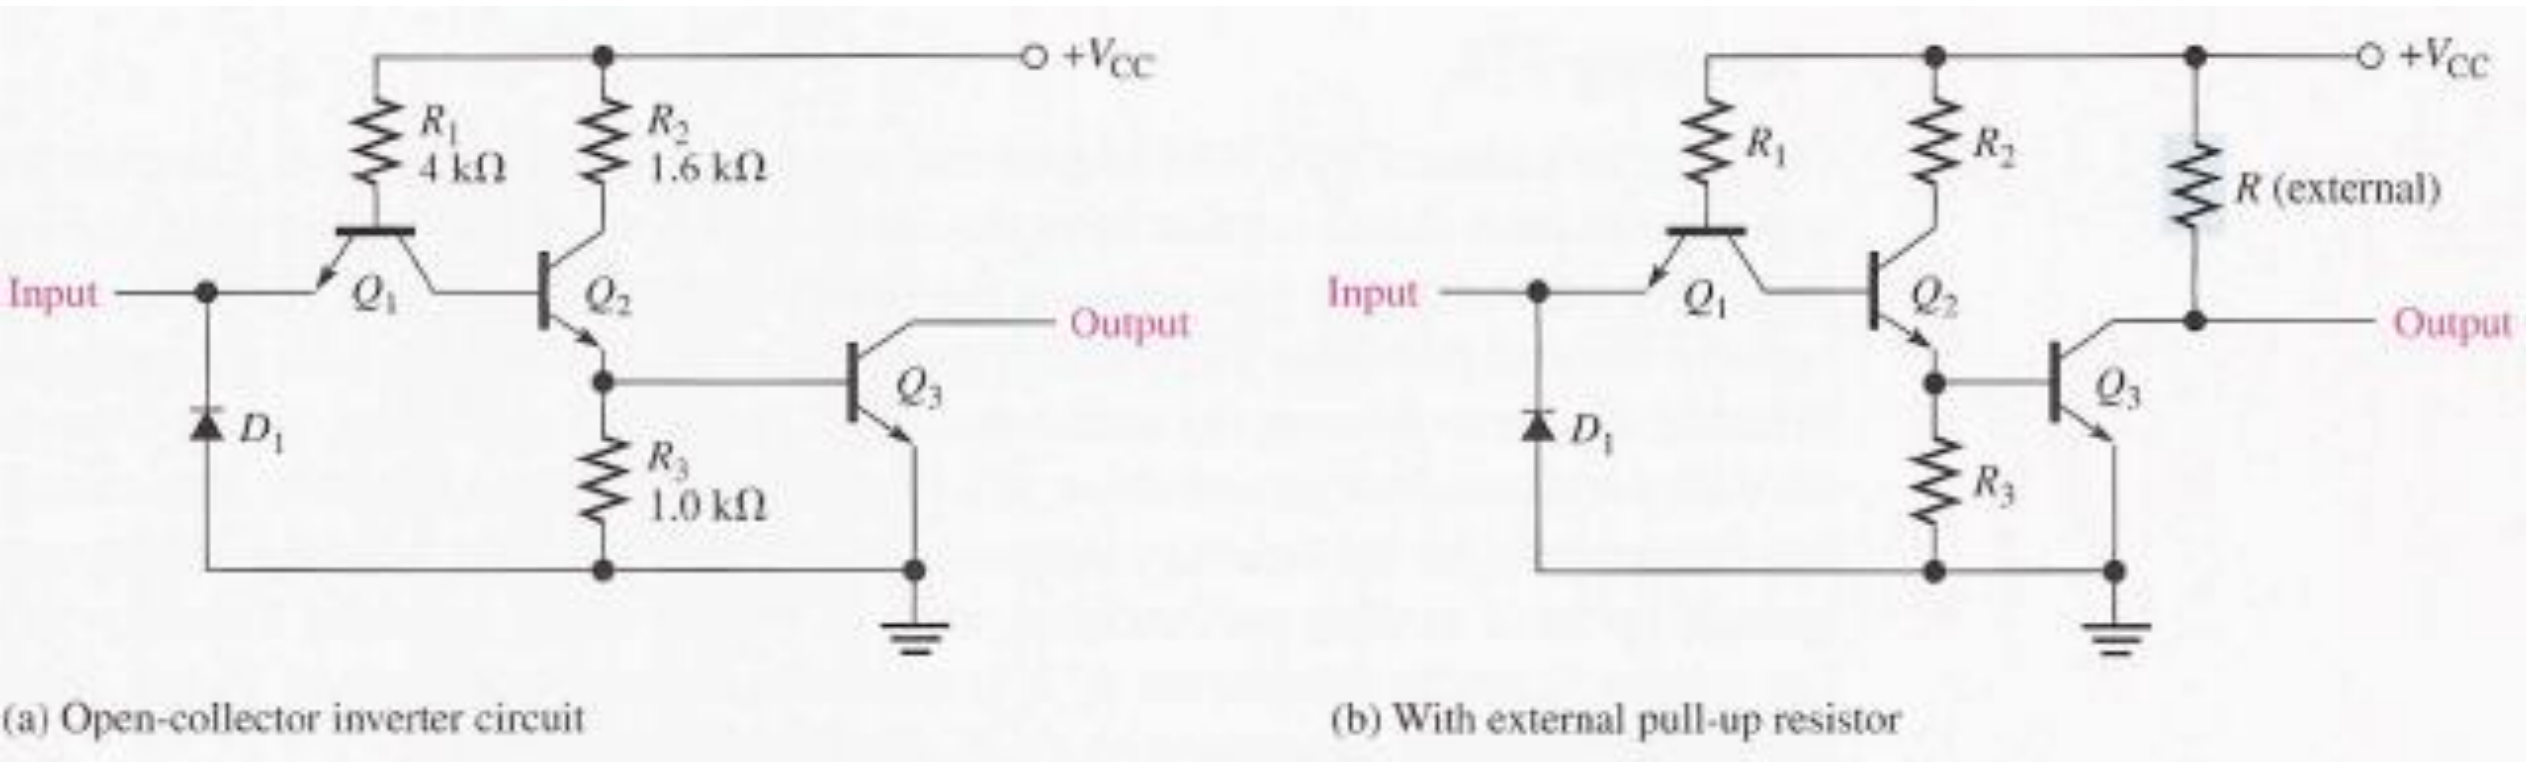

Figure 10
- A standard TTL inverter with an open-collector is shown in Fig. 10(a).
- In order to get the proper HIGH and LOW logic levels out of the circuit, an external pull-up resistor must be connected to V_{cc} from the collector of $Q3$ as shown in Fig. 10(b).